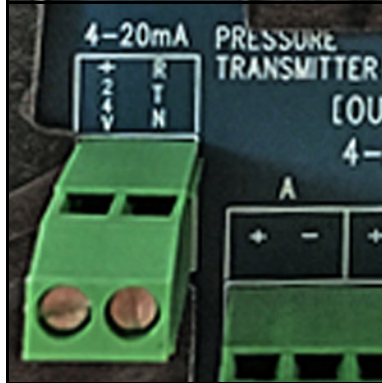

Figure 30: Pressure Transmitter Connections
8. Use a separate wiring conduit run for any 4-20mA pressure transmitter input. This input is used when a live input pressure reading for the main process pressure is desired, to determine an equivalent dew point by the **Aurora H2O** analyzer. Wire the 4-20mA pressure transmitter to the Pressure Transmitter terminal block (see *Figure 30* below). The **Aurora H2O** supplies 24VDC for use with a loop-powered, 2-wire pressure transmitter.